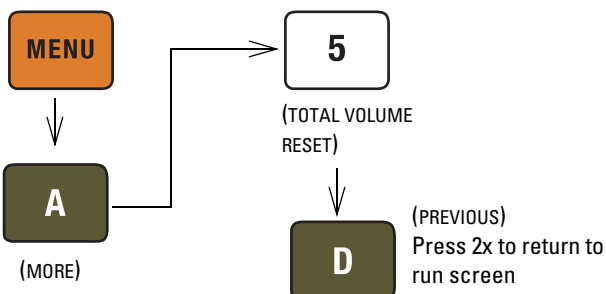

Figure 5: Keystrokes to reset volume totalizer
3. Reset total volume (see Figure 5).
5. Reset total volume (see Figure 5).